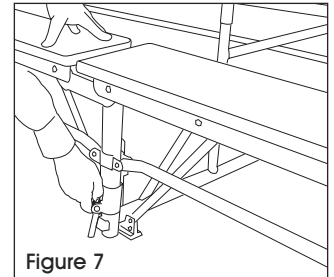

Figure 7
- To test down latch, push down on benches and release down latch on center post by hand. (See Figure 7)